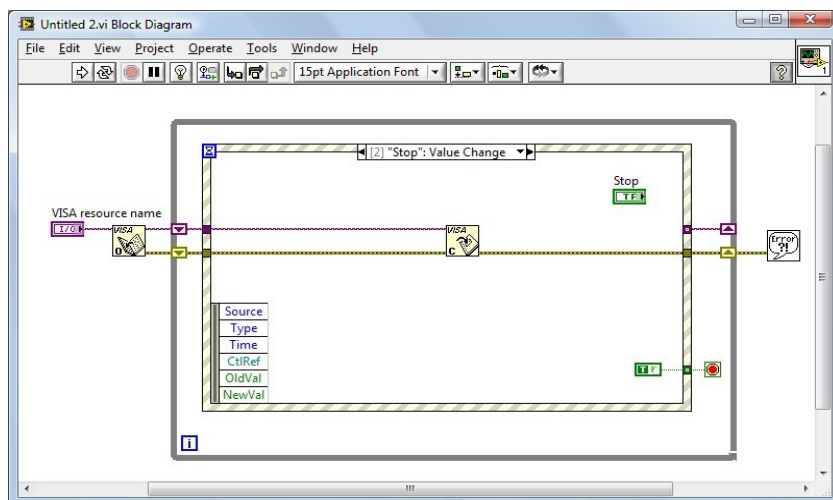

Figure 4-3-5
15. Wire the VISA resource out terminal of the VISA Open function to the VISA resource name terminal of the VISA Close function in the event structure; connect the error out terminal of the VISA Open function with the error in terminal of the VISA Close function shown as figure 4-3-5.